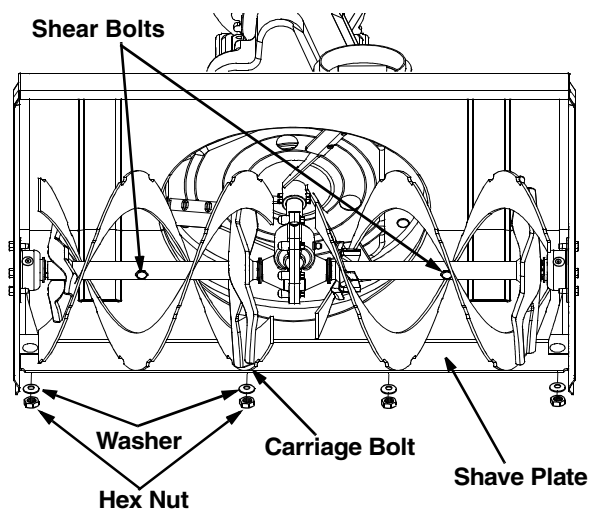

Figure 16
The augers are secured to the spiral shaft with two shear bolts and hex lock nuts. See Figure 16. If you hit a foreign object or ice jam, the snow thrower is designed so that the bolts may shear.
- To remove the shave plate, remove slide shoe as well as the carriage bolts, belleville washers and hex nuts which attach shave plate to the snow thrower housing. For location of shave plate and carriage bolts, see Figure 16.